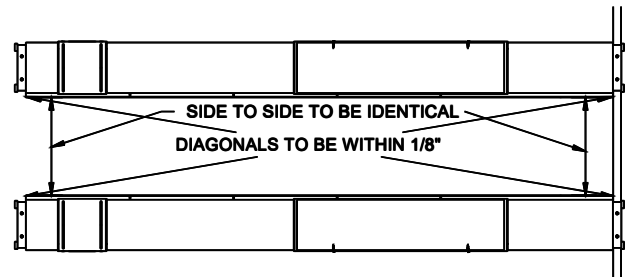

Fig 14 – Final Runway Positioning
- 17) Check the layout of the lift in the bay. (This is the last opportunity to reposition the lift. Take a moment to determine the position of the front column anchors to ensure proper clearance from any crack, edge, or expansion joint. Ensure proper clearance for the lift operator at the Power Unit Controls). Adjust the position of the runways so the distance from power side jack rail to idler side jack rail is the same at the front and rear and the diagonal measurements from the front tip of one rail to the rear tip of the opposite rail are within 1/4", Fig 14.
- 48) Recheck the four runway measurements from **Fig 14**.
- 50) After properly shimming column plumb, loosen anchors and add one shim to both of the two inside anchors to lean the column outward slightly. Make sure lower Slide Blocks are in contact with column and torque all anchor bolts to 150 foot-pounds, **Fig 14**.